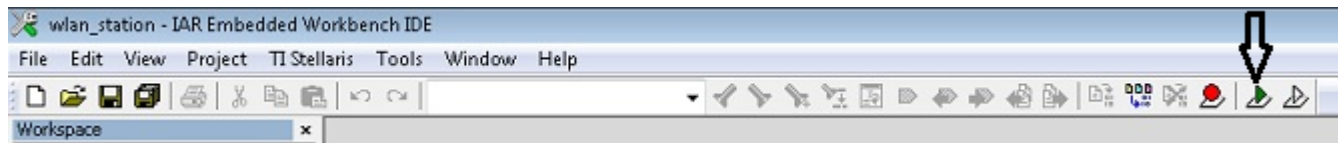

Figure 24. Debug Icon
9. Click the debug icon as shown in Figure 24 to download code to the device and start debugging. Select *Debug>Go* from the menu or press F5 to begin execution.